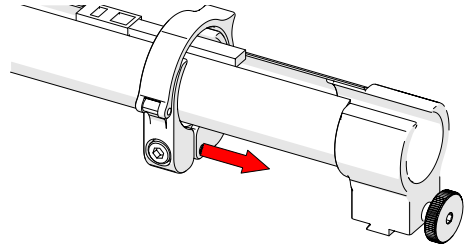

Fig. 108 - Slide clamp onto mount
3. Slide the clamp over the tube and cable management dovetail mount, pinching the tube in between (Fig. 108).